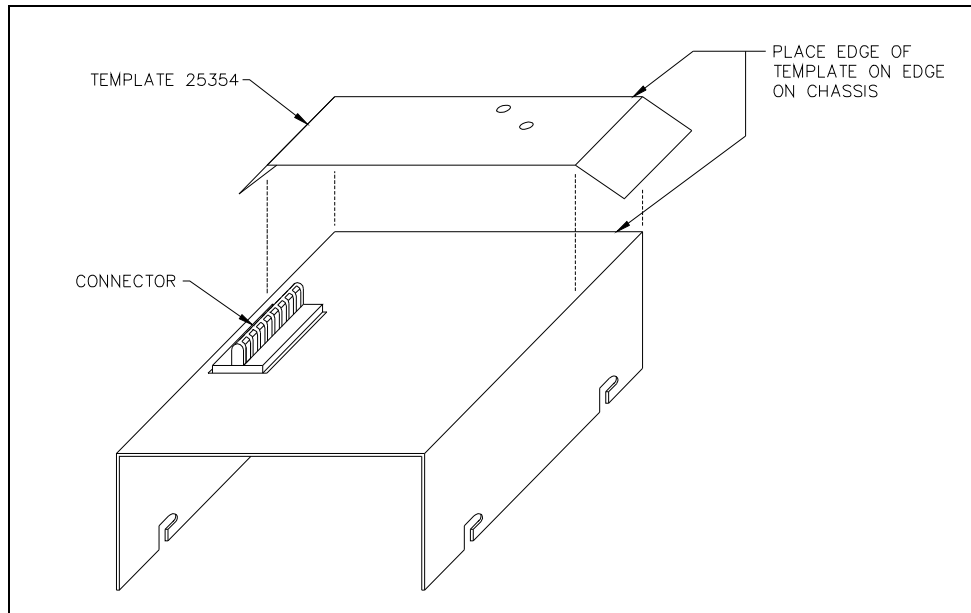

Figure 3. Template 25354
7. Turn the chassis over. With the connector opening at the top of the chassis, place the template along the right edge of the chassis as shown in Figure 3 below.